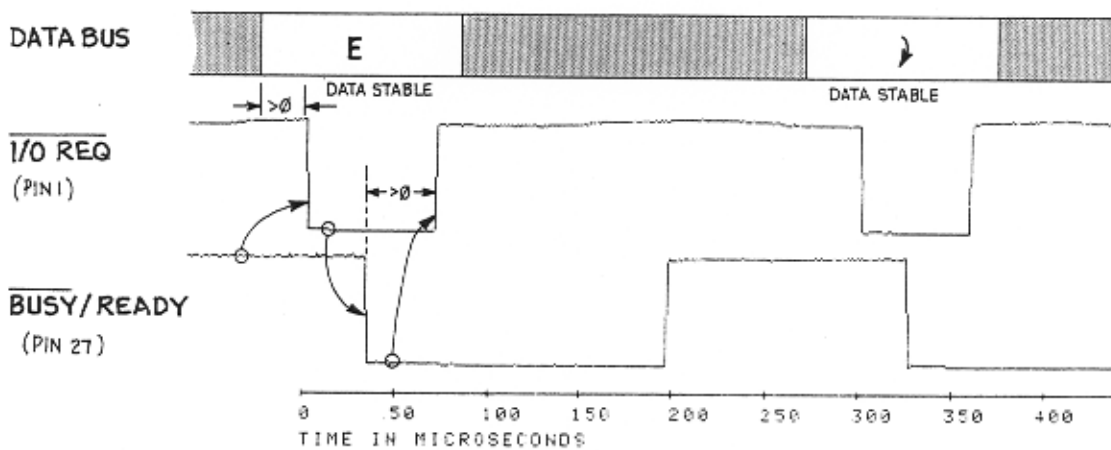

Figure 7.3 I/O REQ and BUSY/RDY timing diagram.
Note that above each I/O REQ strobe, the ASCII character being transferred is shown on the bus. There are eleven characters transferred to the CY525 in approximately 3300 microseconds. As may be seen the spacing is very regular, therefore the transfer time per character is about 300 microseconds. These times are for an 11 MHz crystal and should be scaled by $f/11$ for a crystal of frequency f . If we expand the timing diagram above and look at the first transfer only, we see that the CY525 actually completes the transfer of the character (E) and returns to the READY state within 200 microseconds. The extra 100 microseconds before the I/O REQ is pulled low (to signal the \downarrow on the bus) is actually delay caused by the master computer used in this example. If a faster computer were used, this could be decreased so that the minimum character transfer time of 200 micro-seconds per character is approached. This timing is shown below in figure 7.3.